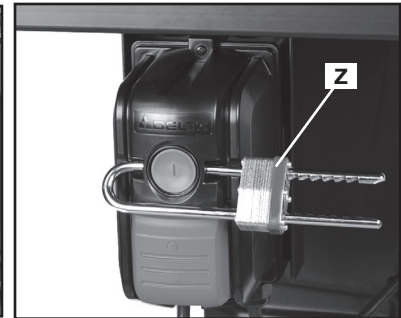

FIG. 20
IMPORTANT: When the machine is not in use, the saw should be turned off and the "ON" button locked out to prevent unauthorized use. To lock out "ON" button, use a standard long shackle lock (Z) Fig. 20, with a shackle that is at least 2-3/4" (70 mm) long and with shackle posts no larger than 9/32" (7 mm) thick.